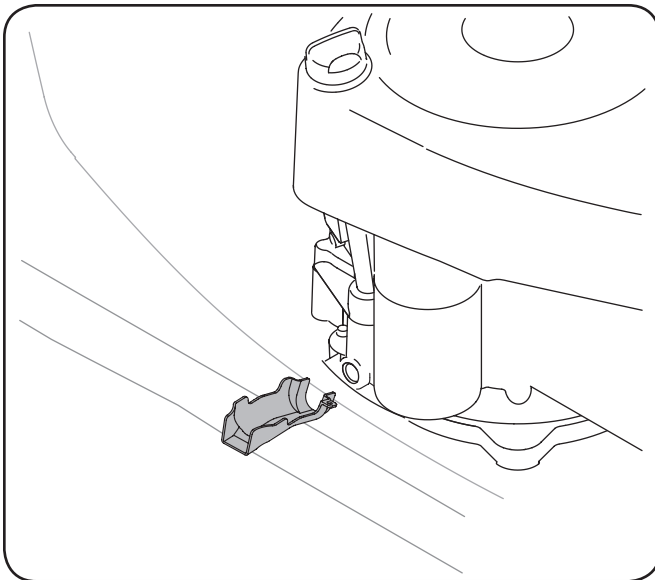

Figure 6-1
2. Snap the small end of oil drain sleeve onto the oil sump. See Fig. 6-1.